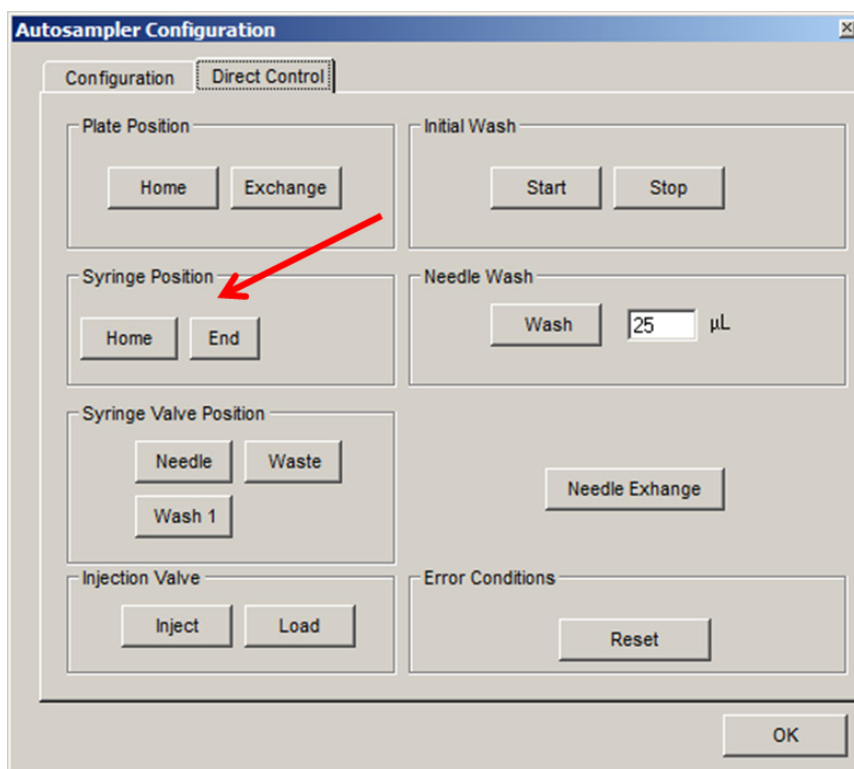

Figure D-10 Autosampler Configuration Dialog Indicating the Syringe Position Buttons
- b. In the **Syringe Position** group, click **End** (Figure D-10).
- b. In the **Initial Wash** group, click **Start** (Figure D-10).